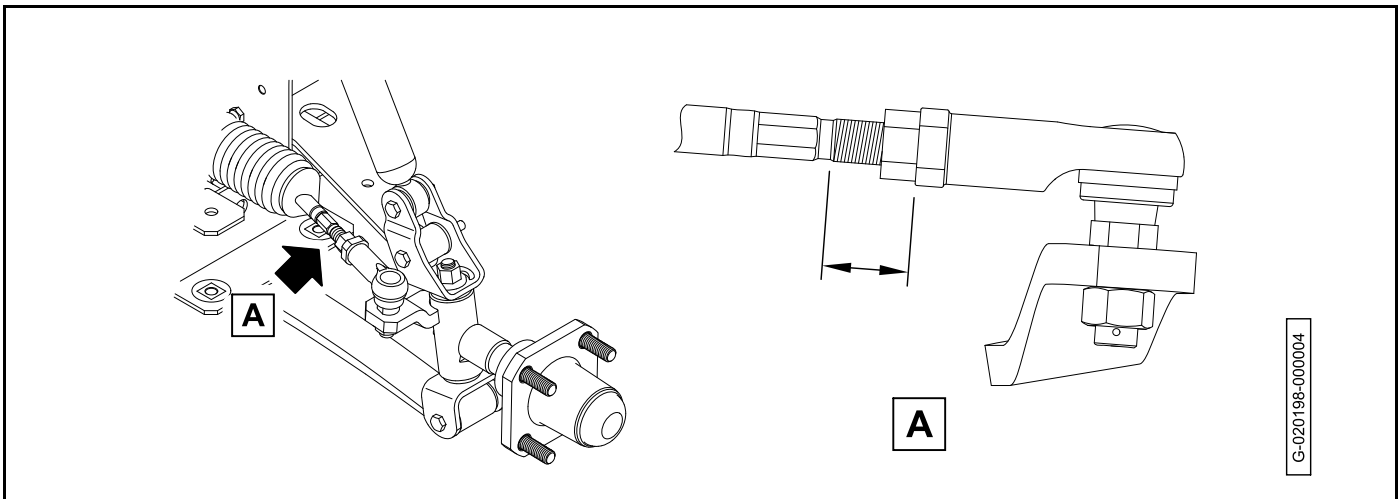

Figure 7-11
- 9.4. Maintain an equal distance from the ball joint to the end of the threads on each drag link (**Figure 7-11**).